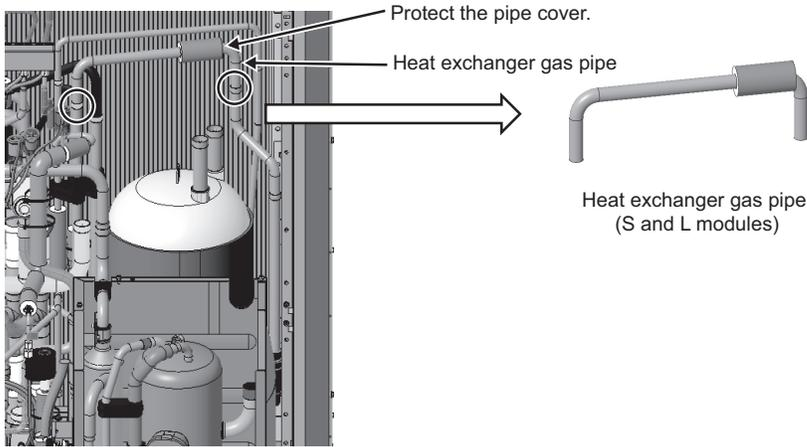

Fig. 8
(8) Remove the brazing from the heat exchange gas pipe. (Two areas: Fig. 8)